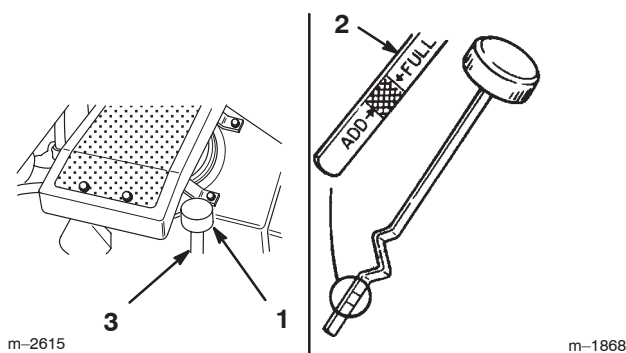

Figure 19
2. Clean around the oil dipstick (Fig. 19) so dirt cannot fall into the filler hole and damage the engine.
3. Unscrew the oil dipstick and wipe the metal end clean (Fig. 19).
4. Slide the oil dipstick fully into the filler tube, do not thread onto tube (Fig. 19). Pull the dipstick out and look at the metal end. If oil level is low, slowly pour only enough oil into the filler tube to raise the level to the full mark.
5. Slowly pour approximately 80% of the specified oil specified, page 22, into the filler tube (Fig. 19).